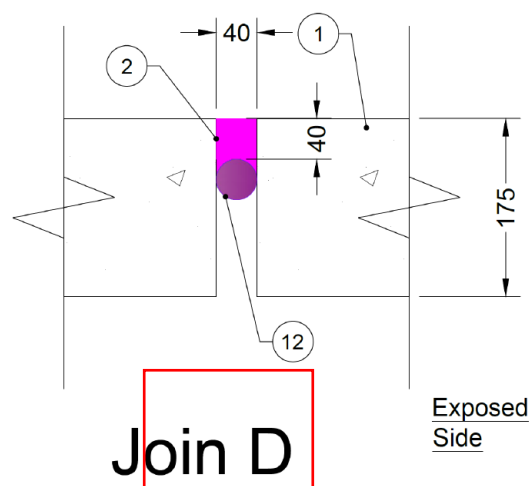

Figure 9 Cross-section G-G
Protection	Backing rod (item 12) was first inserted into the aperture to a depth of 40 mm from the unexposed side. Sealant (item 2) was then applied into the aperture up to the backing rod. See Figure 1, Figure 2 and Figure 9 in Appendix A for more details.